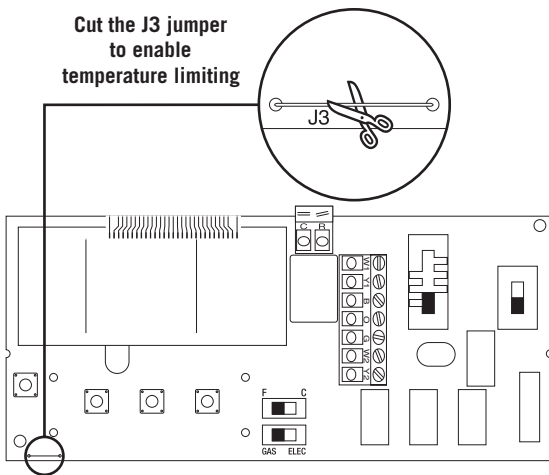

Figure 7
- A temperature limiting jumper has been included in this thermostat. Cutting this jumper (J3) limits the heating setpoint to no greater than 72°F and the cooling setpoint to no lower than 78°F (Figure 7).
NOTE: IF THE TEMPERATURE LIMITING JUMPER J3 IS CUT (FIGURE 7), THE DEADBAND IS NOT ADJUSTABLE AND IS AUTOMATICALLY SET TO 6°F (3°C).